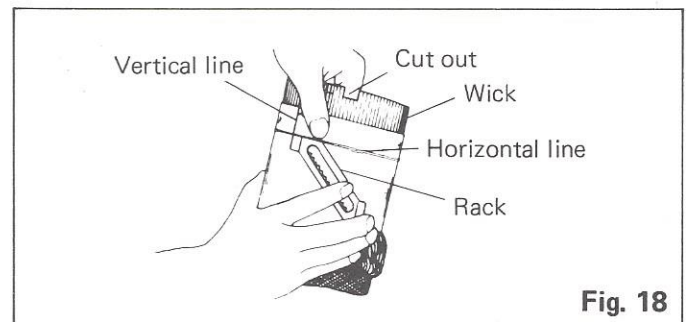

Fig. 18
9. Insert the new wick into the wick holder. Adjust it so that its horizontal tape line is even with the upper edge of the wick holder and the vertical tape line aligns with the left end of the rack. Then push the wick from the inside so that it is flush against the wick holder and the hooks of the wick holder have firmly caught hold. (Fig. 18)